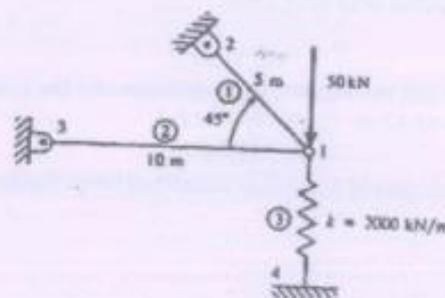

Figure-1
3. For the plane trusses supported by the spring at node 1 in Figure-1, determine the nodal displacement and stresses in each element. Let $E=210\text{GPa}$ and $A=5.0 \times 10^{-4} \text{ m}^2$.